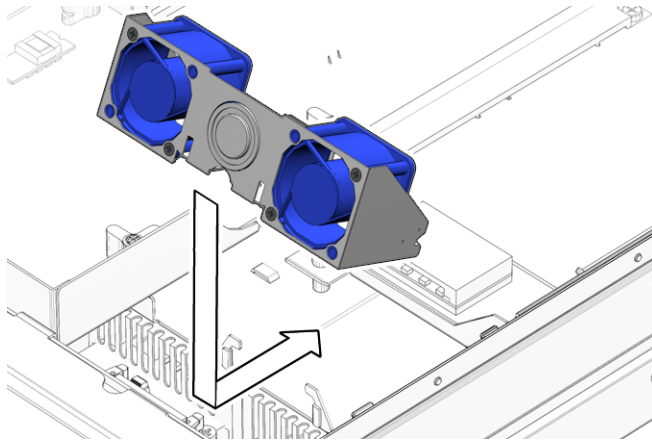

FIGURE 5-15 Lowering the Hard Drive Fan Assembly
2. Lower the hard drive fan assembly down, and slide the hard drive fan bracket back so that the tabs enter the slots (FIGURE 5-15).